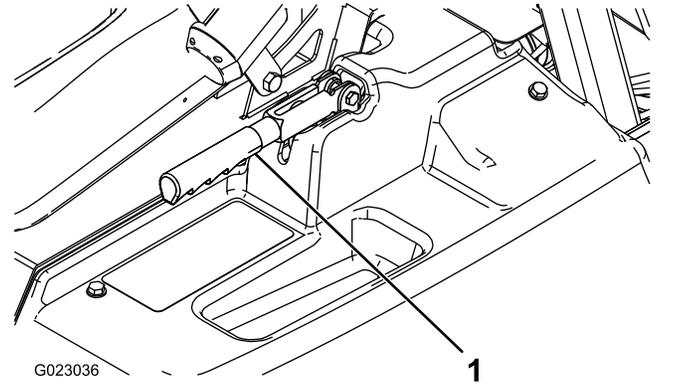

Figure 36
2. Loosen the set screw securing the knob to the parking brake lever (**Figure 36**).